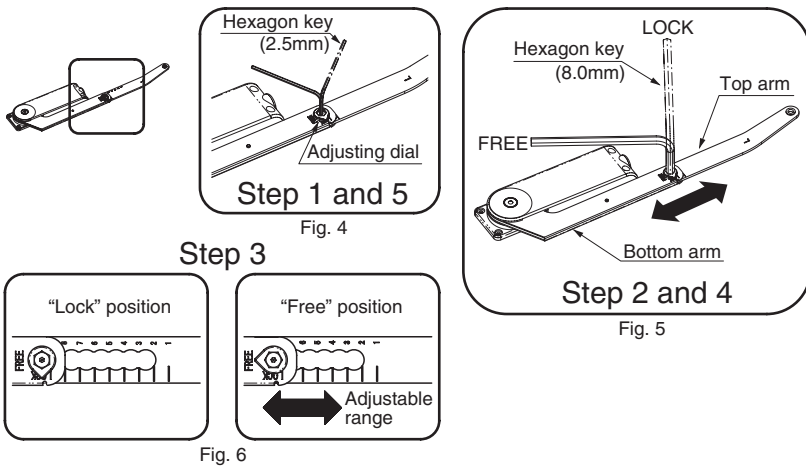

Fig. 4,5,6 Arm adjustment procedure
- step1 Using a hexagon key (2.5mm) loosen the socket screw securing the adjusting dial (Fig. 4).
- step5 Using a hexagon key (2.5mm) tighten the socket screw securing the adjusting dial (Fig. 4).